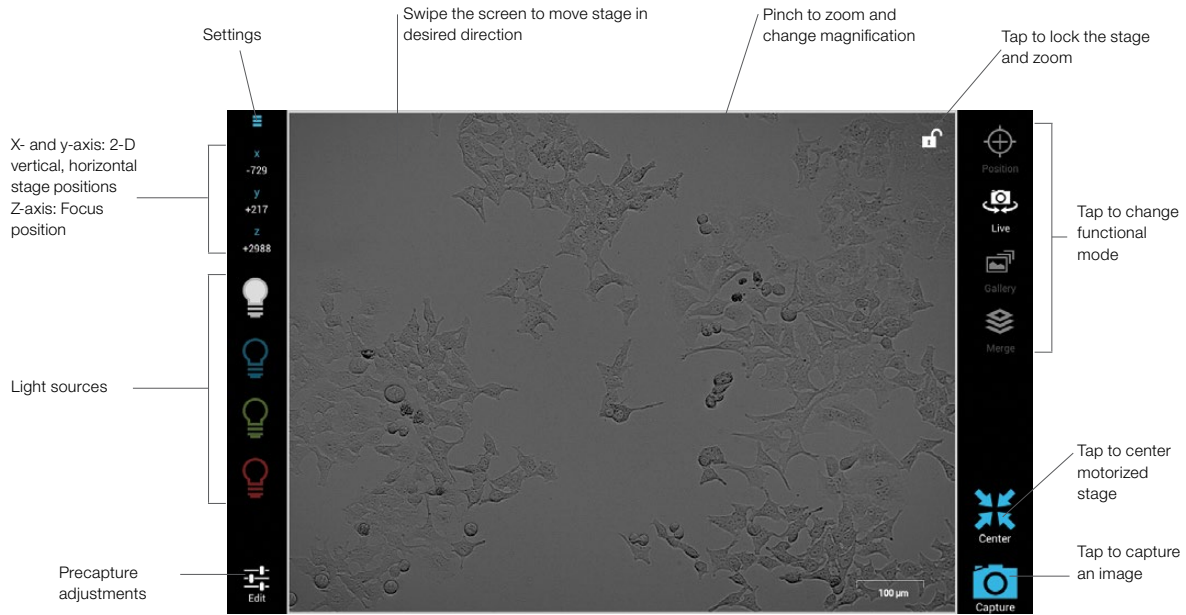

Fig. 3. User controls available in Live mode.
- **Live** — view samples using brightfield (Figure 3) or any of the three fluorescent channels; use this mode for image acquisition
The ZOE Fluorescent Cell Imager's motorized stage, with up to 6 mm of travel, enables rapid visualization of a large sample area. Direction and speed of the stage movement are controlled through the touch screen, and display magnification can be instantly increased using the pinch-to-zoom gesture. X and Y coordinates (Figure 3) are updated as the stage moves. Use the Center icon (Figures 2 and 3) to return the stage to the Home position (X,Y; 0,0). Tap the **Stage/Zoom** lock to lock the sample position and magnification during acquisition of images for multicolor merge. When done, tap the lock again to unlock.
A control panel located on the left side of the screen contains controls for switching on and off light sources for the individual imaging channels (Figure 3). For improved image contrast, a ring of green LEDs is the light source in the brightfield channel. ZOE uses a monochrome camera and the resulting brightfield images are black and white.
Focus position indicator on the left side of the touch screen shows the z-axis position number. The number is updated during focusing (Figure 3). Knowing the approximate z-axis number for the tissue culture vessels you use can speed up focusing (Table 2).
A control panel located on the left side of the screen (Figure 3) contains controls for switching on and off light sources for the individual imaging channels. The viewing area shows the sample illuminated with the selected light source; the displayed sample is pseudo-colored in the appropriate emission color (Figure 6). Tap the illumination control (Figure 7) to turn the LED light source on, tap it again to turn it off.
Focus — position indicator on the left side of the display area shows the z-axis position number and is updated during focusing (Figure 3). Noting the approximate z-axis number for the tissue culture vessels you use can speed up focusing (Table 2).
To capture the image of the sample displayed in the viewing area, tap the **Capture** (Figure 3) icon. The captured image will remain displayed on the screen (action mode will change from **Live** to **Gallery**) and the image file will automatically be saved to the internal memory. Captured images can be edited or used in multicolor image merges. For more details, go to **Capturing Images for Multicolor Merge Mode** (page 17).